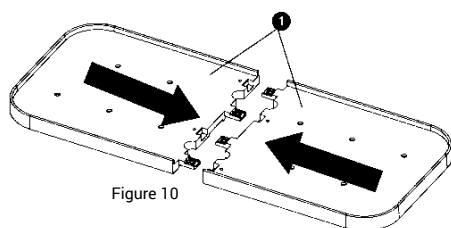

Figure 10
1. Take TRP-1 and TRP-2 and bring them together. See Figure 10.